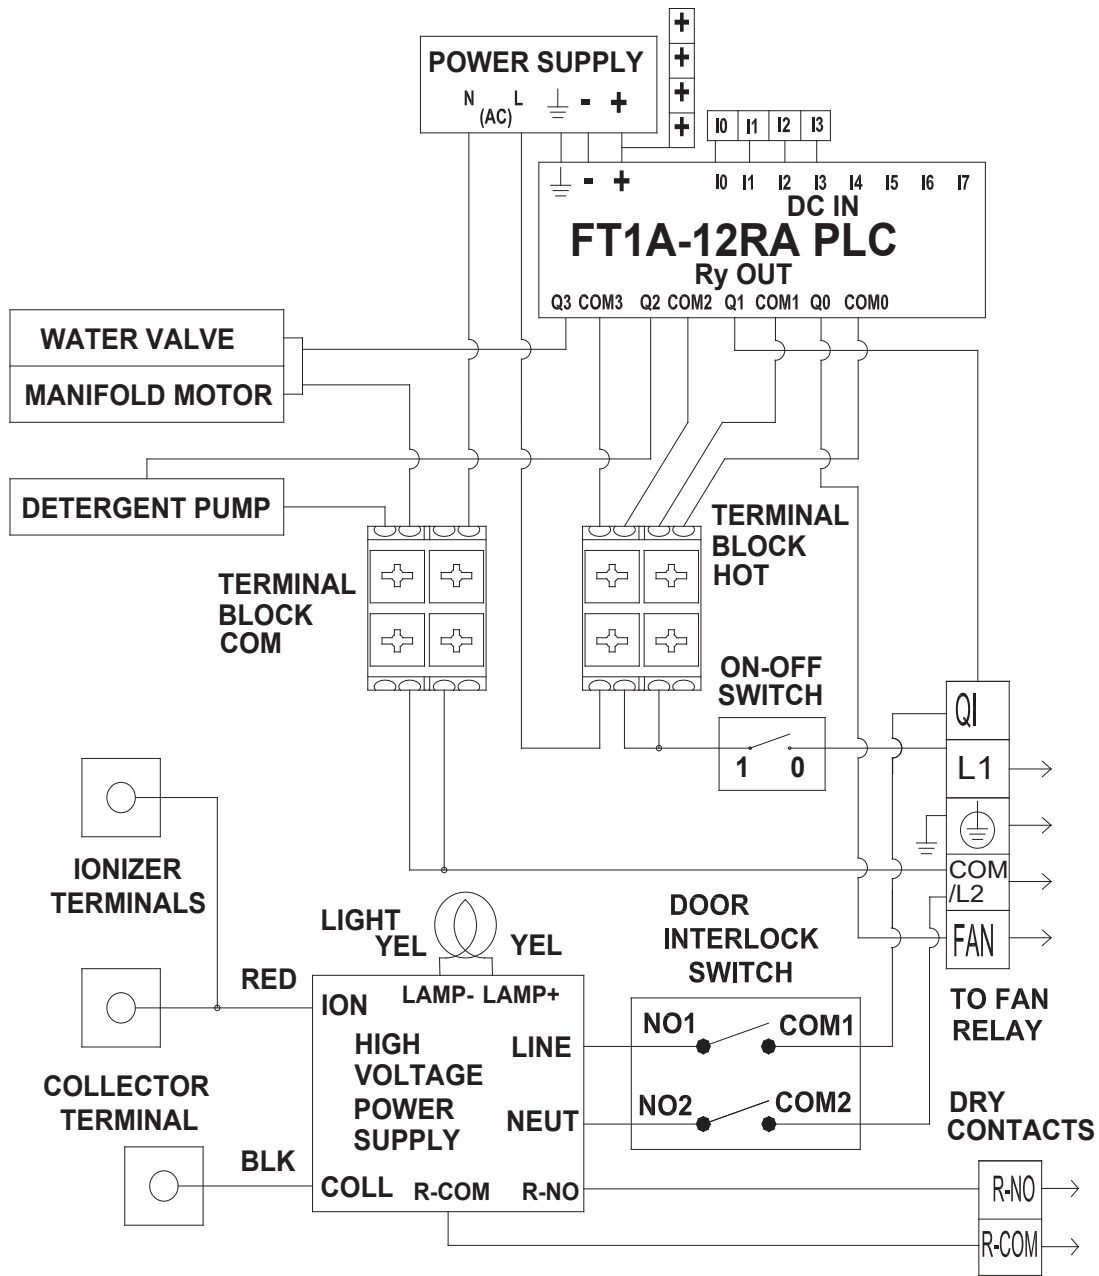

Figure 8 – Internal Wiring Schematic for AUTOCLEAN® 2000 and 4000
1. Install the water strainer (supplied) in the hot water line ahead of the water valve. See Figure 8. The strainer protects the valves and washing jets from clogging.
Check all electrical connections to make certain they are correct and complete. Refer to the hookup diagrams (Figures 8 through 9).
Make sure all wiring is connected properly reference figures 8 and 9.**
Be sure the electrical connections have been made properly per Figure 8 & 9.